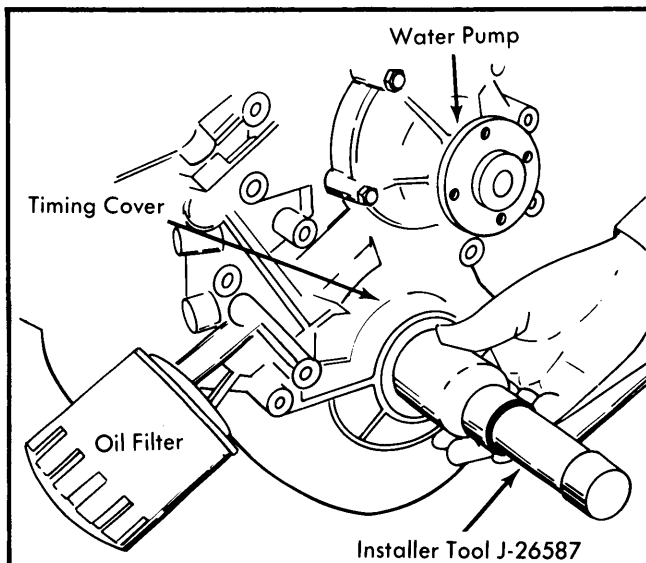

Fig. 5 Installing Timing Cover Oil Seal
**Installation** — Align oil pump drive gear punch mark with oil filter side of cover. Align center of dowel pin with alignment mark on oil pump case. Rotate No. 1 and 4 cylinders to top dead center. Install front cover by engaging pinion gear with oil pump drive gear on crankshaft (See Fig. 5). Install front cover and reverse removal procedure.